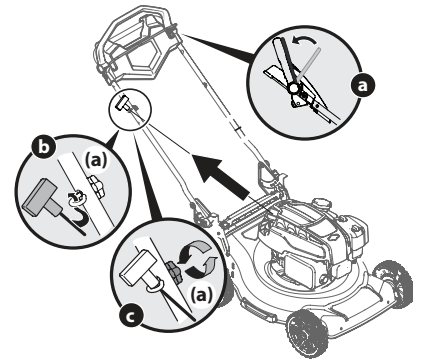

Figure 3
5. The rope guide is attached to the right side of the upper handle. Loosen the wing knob (a) which secures the rope guide. See Figure 3.